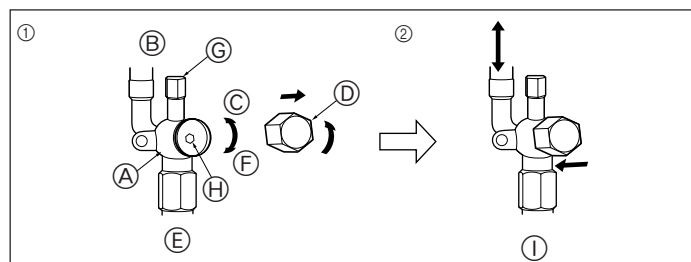

Fig. 5-6
5.5. Stop valve opening method (Fig. 5-6)